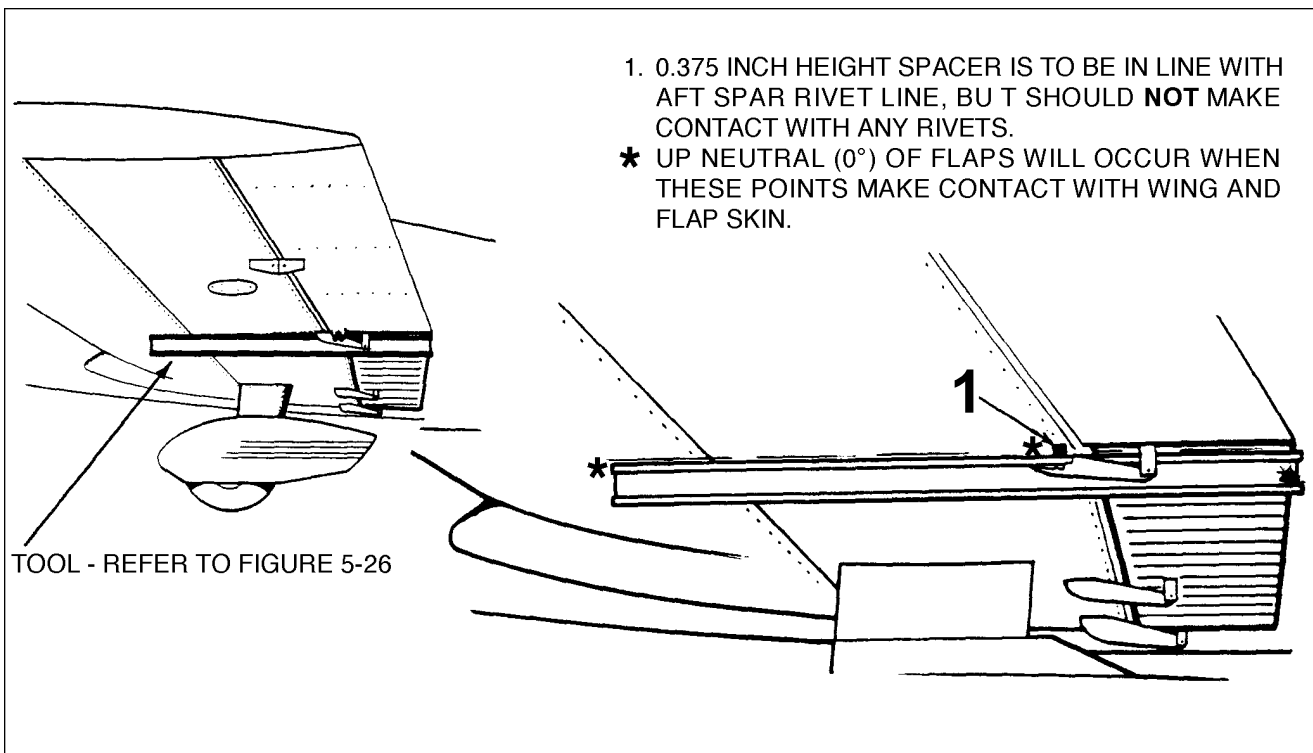
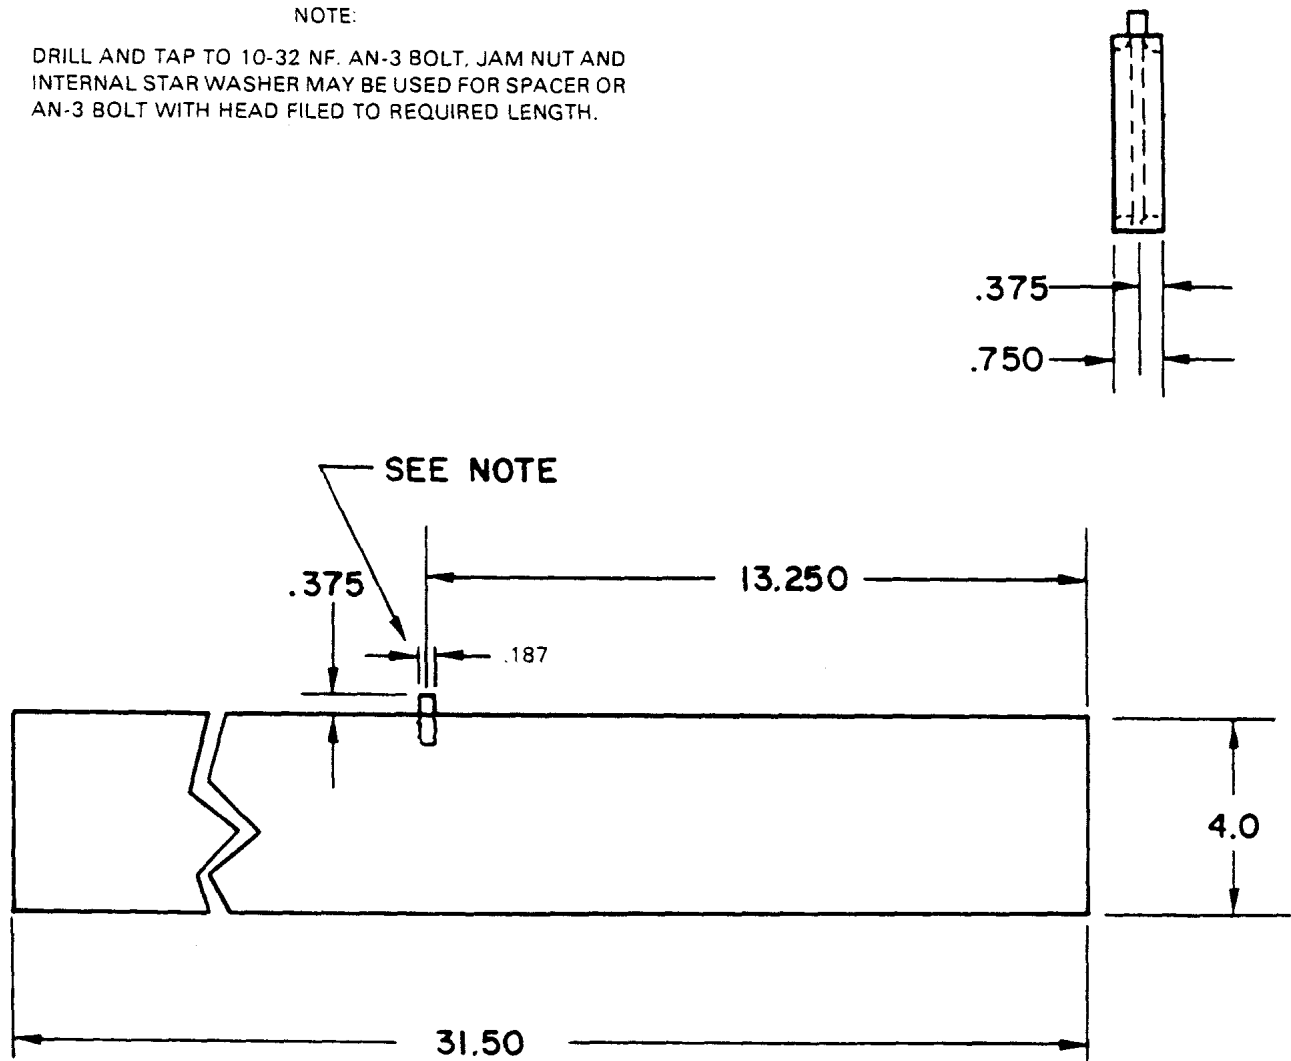

Figure 5-23. Flap Rigging Tool
Figure 5-26. Fabricated Flap Rigging Tool
d. To check up (0° position) of the flaps, place a flap rigging tool as shown in Figure 5-23 against the underside of the wing and flap as close as possible to the outboard end of the flap without contacting any rivets. The tool must be positioned parallel with the wing ribs with the aft end of the tool even with the trailing edge of the flap. (This tool may be fabricated from dimensions given in Figure 5-26.)